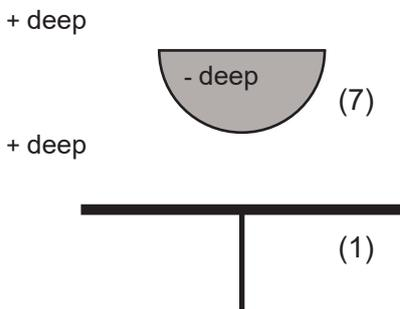

Fig. 18
You can check it placing the convex body (7) as shown in Figure 18.